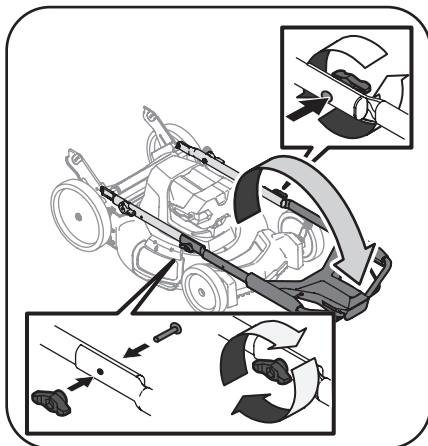

Figure 2-1
4. Gently lift and pivot the upper handle into the position shown in Figure 2-1.
5. Insert bolt through the right side lower and upper handle. Thread wing knob onto bolt. See Figure 2-1 insets.
6. Secure the upper handle and lower handle by tightening the wing knobs. See Figure 2-1 insets.